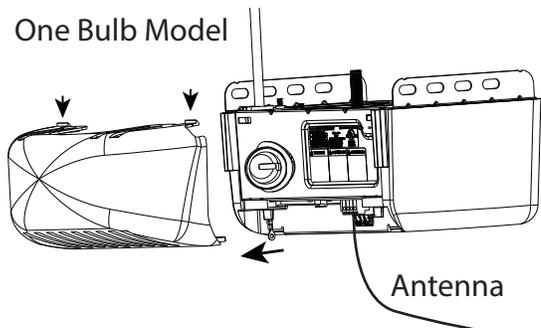

FIG. 3.
9. Remove wall control and Safe-T-Beam® wires from terminal block located on side of two bulb models or rear of one bulb models FIG. 3. Use small common screwdriver to press in on orange tabs while gently pulling wires from block. Mark wires to help facilitate replacement.